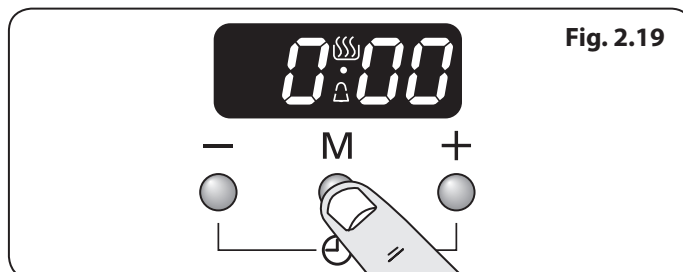
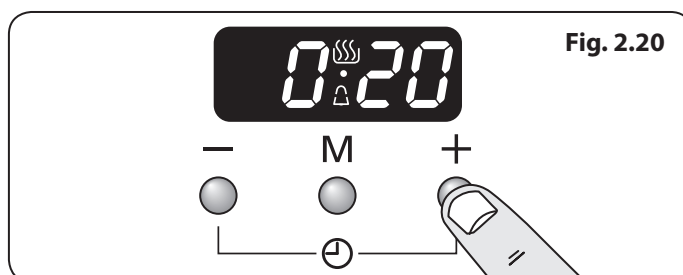

Fig. 2.19
Fig. 2.20
1. Press the mode [M] button once **(Fig. 2.19)**. The bell symbol (🔔) will flash on the display. Select the desired countdown from 00:01h to 23:59h using the [+] button **(Fig. 2.20)**. The countdown will automatically begin and the (🔔) symbol will show in the display.